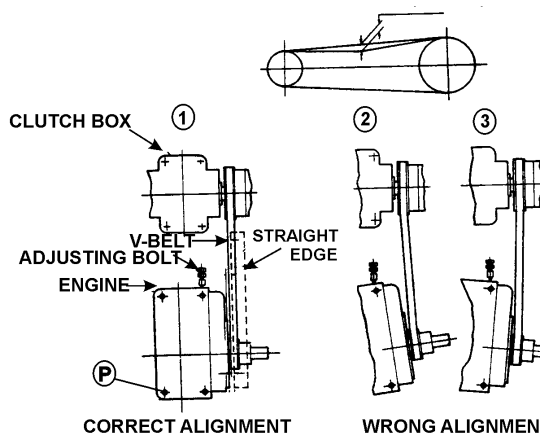

Figure 11. V-Belt Tension
2. Check V-belt for proper tension. The normal slack should be approximately 1/8 inch (3 to 5 mm) when the belts are forcibly depressed between the two sheaves (Figure 11). Insufficient tension causes weak vibration and machine damage.